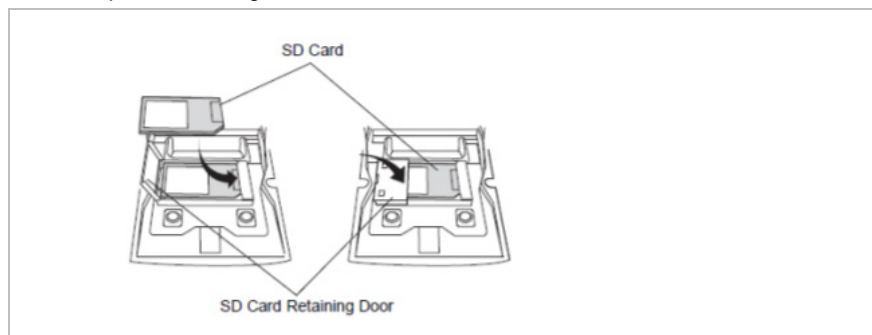

Figure 4-7: Inserting the SD card
- (1) If the MC 9190^{ex}-NI is in standby mode, press the red **Power** button to activate the device.
- (2) Press the red **Power** button to suspend the MC 9190^{ex}-NI.
- (3) Remove the battery
- (4) Remove the two keypad screws and slide the keypad down and lift off (see chapter 4.5 "Keypad").
- (5) Lift the SD card retaining door.
- (6) Position the SD card, with the contacts down, into the SD card holder (shown in *Figure 4-7: Inserting the SD card*). The SD card corner notch fits into the holder only one way.
- (7) Snap the retaining door closed.